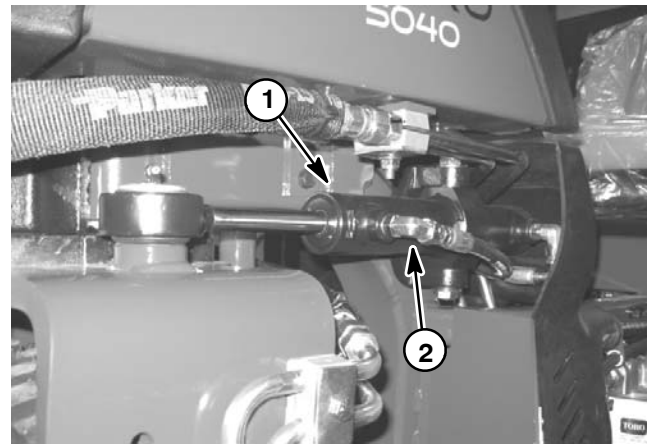

Figure 29
B. Remove hydraulic hose from the 90° fitting on the rod end of the steering cylinder (Fig. 29). Plug the end of the hose.